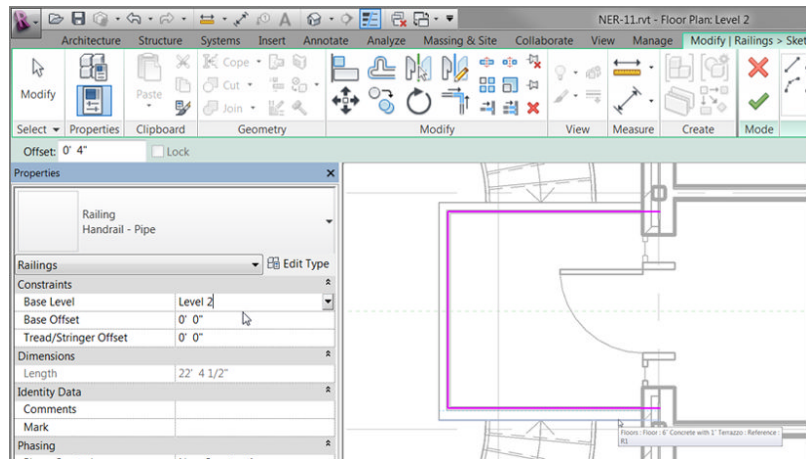

FIGURE 10.50: Adding the railings to the landing
3. On the Draw panel, click the Pick Lines icon, as shown in Figure 10.50.